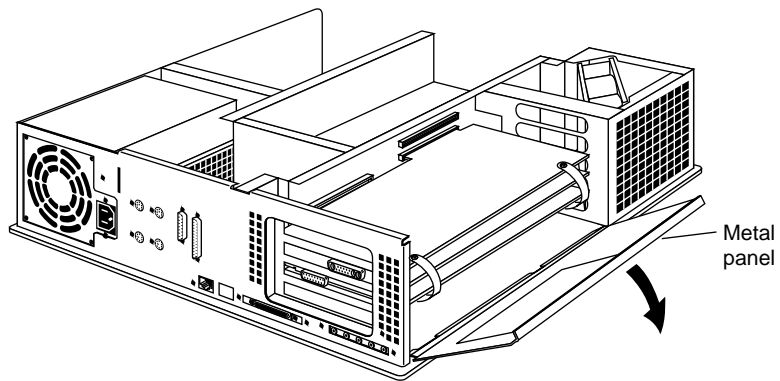

Figure 2-7 Opening the Metal Panel
2. Open the metal panel by pulling up and then lowering it (Figure 2-7).